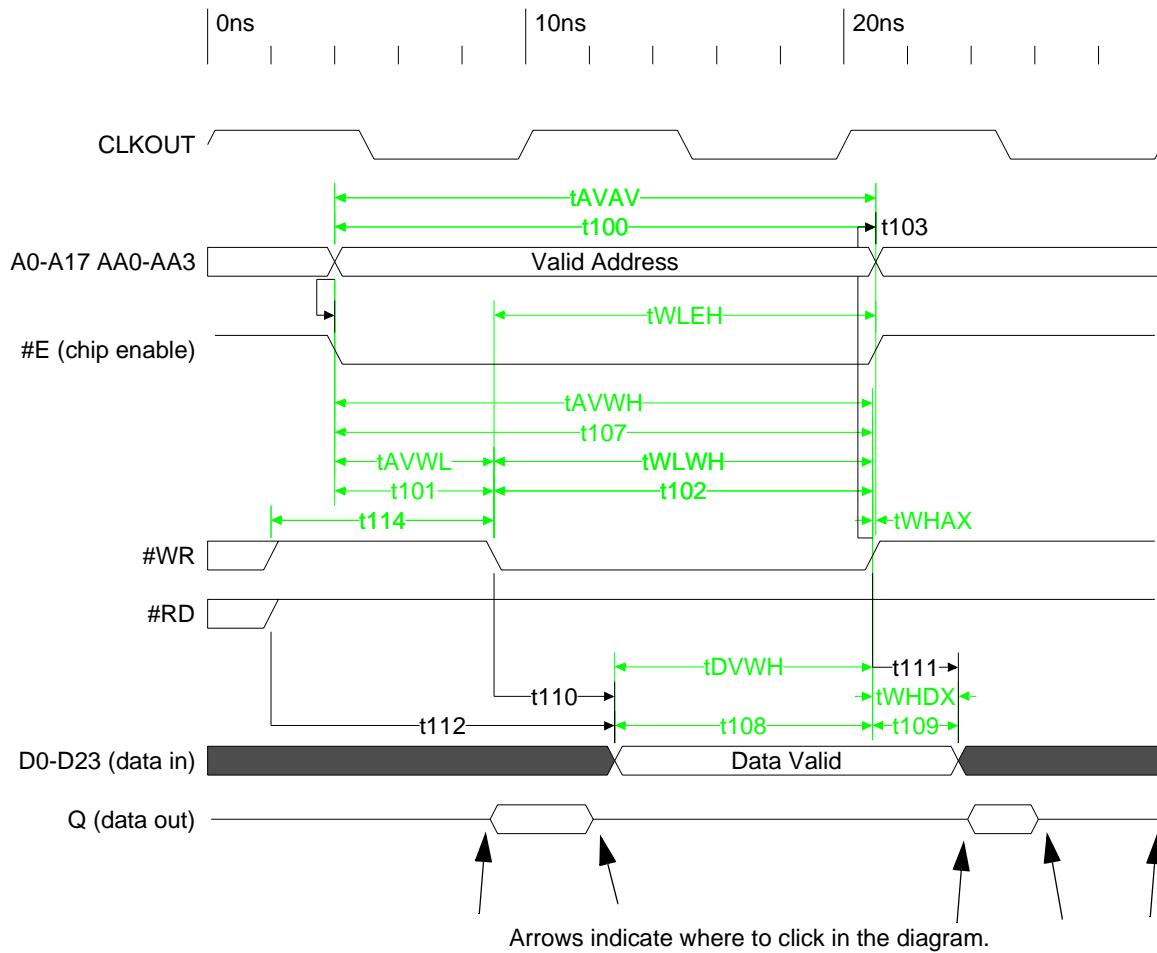

Figure 9. Adding Q Signal
7. To complete and display the signal, click at the five places indicated in **Figure 9**.